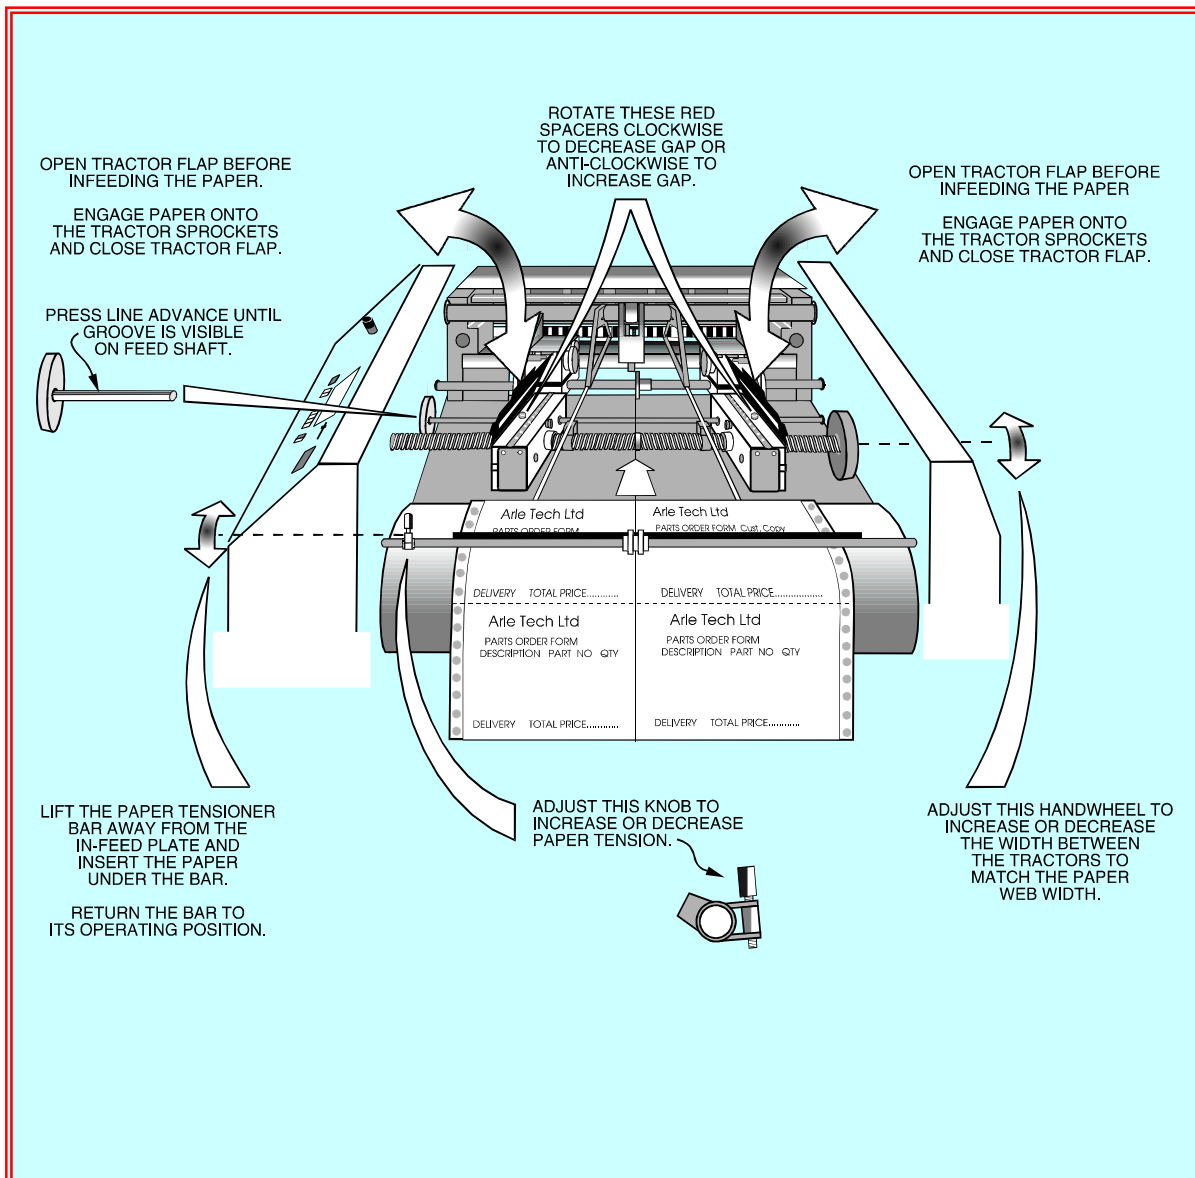
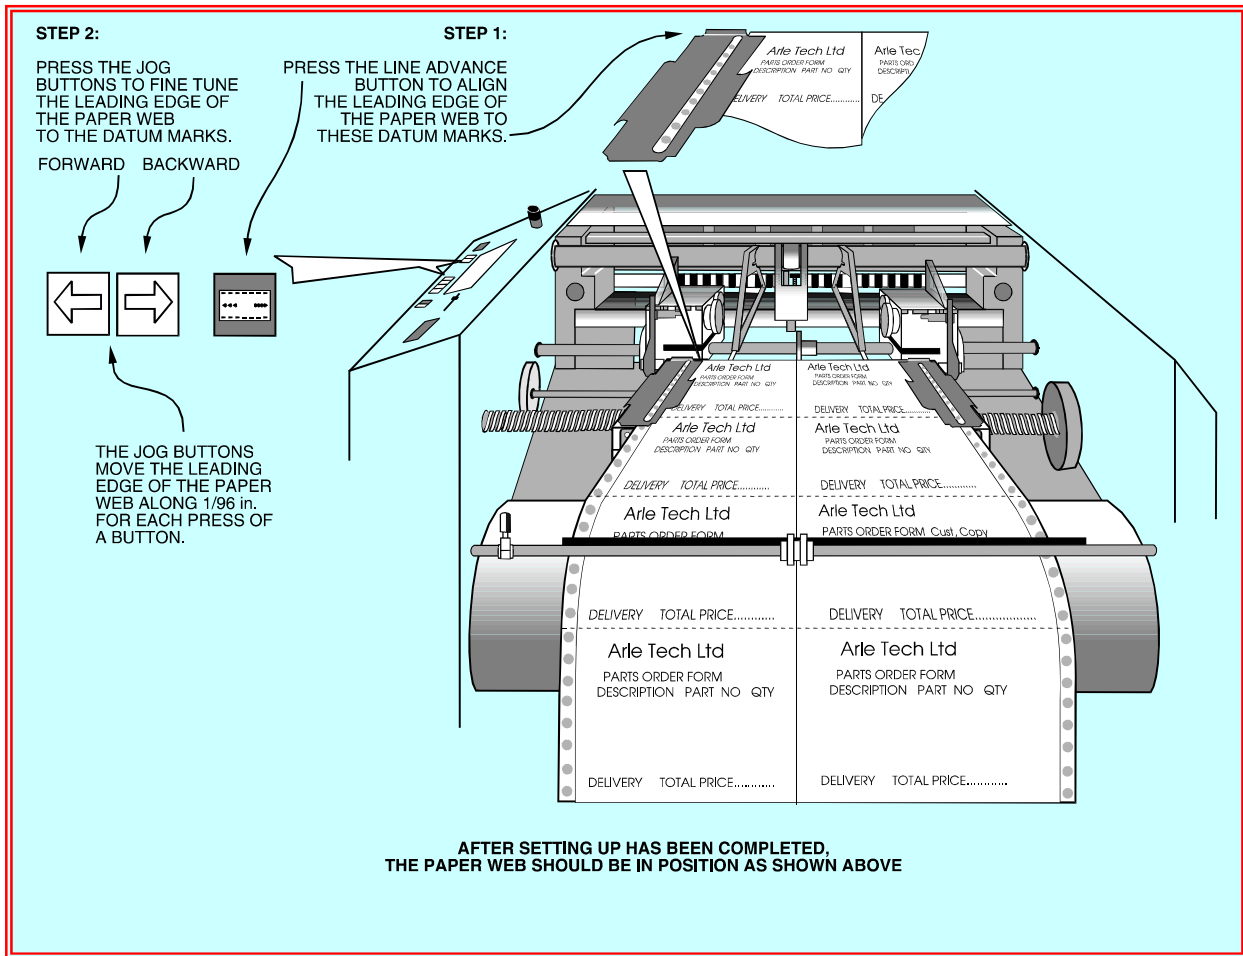

Fig 2.1 Loading the Paper Web
Fig 2.2 Aligning the Paper Web
- Press the Line Advance pushbutton, so that the feed shaft rotates until the groove on the shaft is clearly visible, as shown in Fig 2.1.
- Load the forms cutter with a paper web as shown in Fig 2.1 and align it as shown in Fig 2.2.